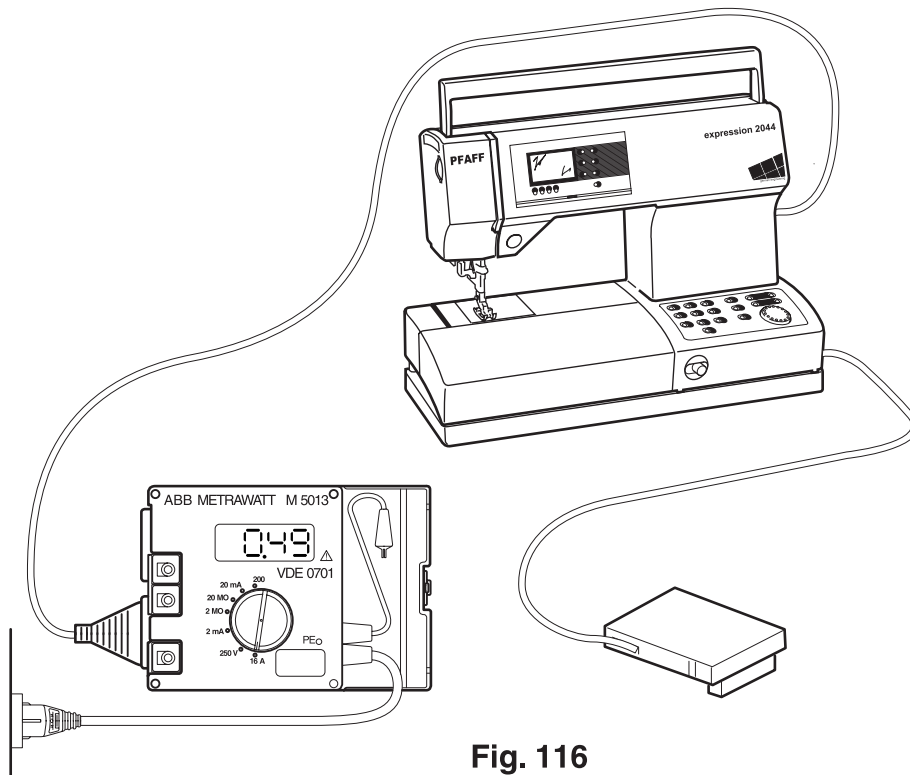

Fig. 116
- Set knob for the measuring range at 16 A (fig. 116).